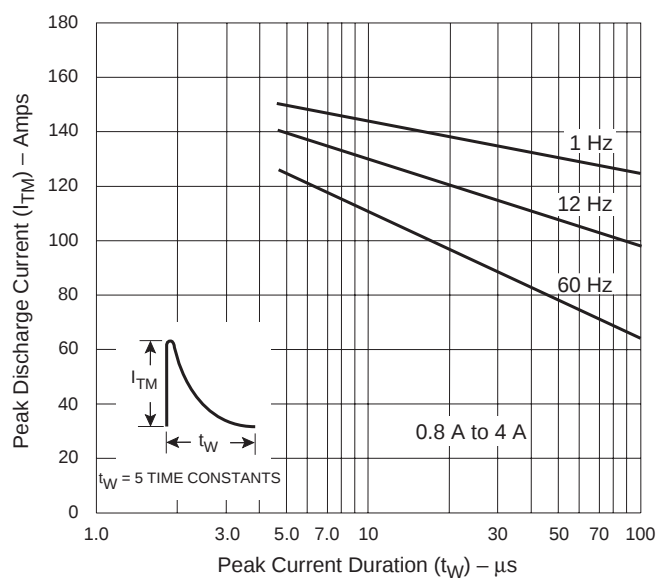
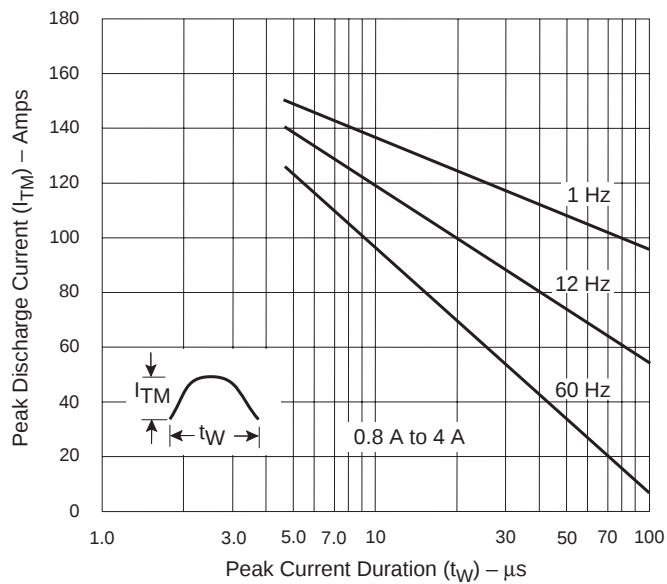

Figure E5.20 Peak Repetitive Capacitor Discharge Current
Figure E5.21 Peak Repetitive Sinusoidal Curve
- (7) 0.8 A to 4 A devices also have a pulse peak forward current on-state rating (repetitive) of 75 A. This rating applies for operation at 60 Hz, 75 °C maximum tab (or anode) lead temperature, switching from 80 V peak, sinusoidal current pulse width of 10 μ s minimum, 15 μ s maximum. See Figure E5.20 and Figure E5.21.